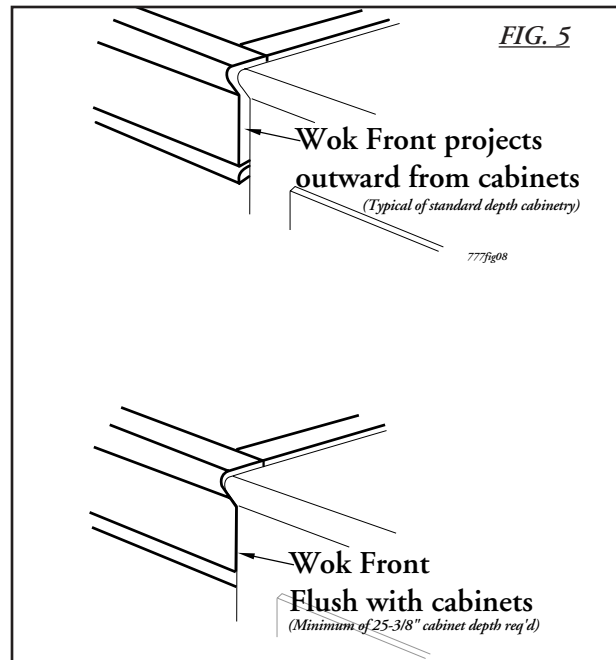

FIG. 4
- * Deep counter or island installations (See Fig.4).